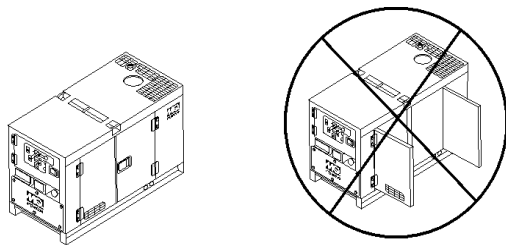

Figure 20. Engine Enclosure Doors
5. Close all engine enclosure doors (Figure 20).